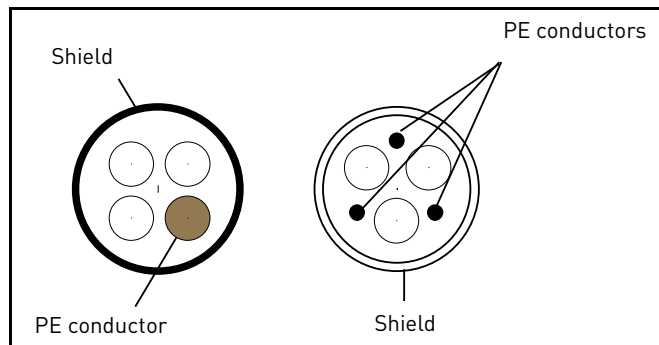

Figure 18.
- 2 = Symmetrical power cable equipped with concentric protection wire and intended for the specific mains voltage. (MCMK or similar recommended). See Figure 18.
- 3 = Symmetrical power cable equipped with compact low-impedance shield and intended for the specific mains voltage. [MCCMK, EMCMK or similar recommended; Recommended cable transfer impedance (1...30MHz) max. 100 mOhm/m]. See Figure 18.